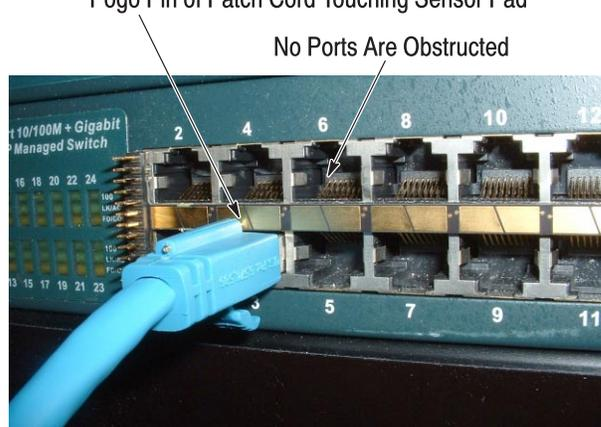

Figure 4
2. Install a printed circuit (pc) board sensor strip onto all other patch panels or LAN electronics as follows (refer to Figure 4):